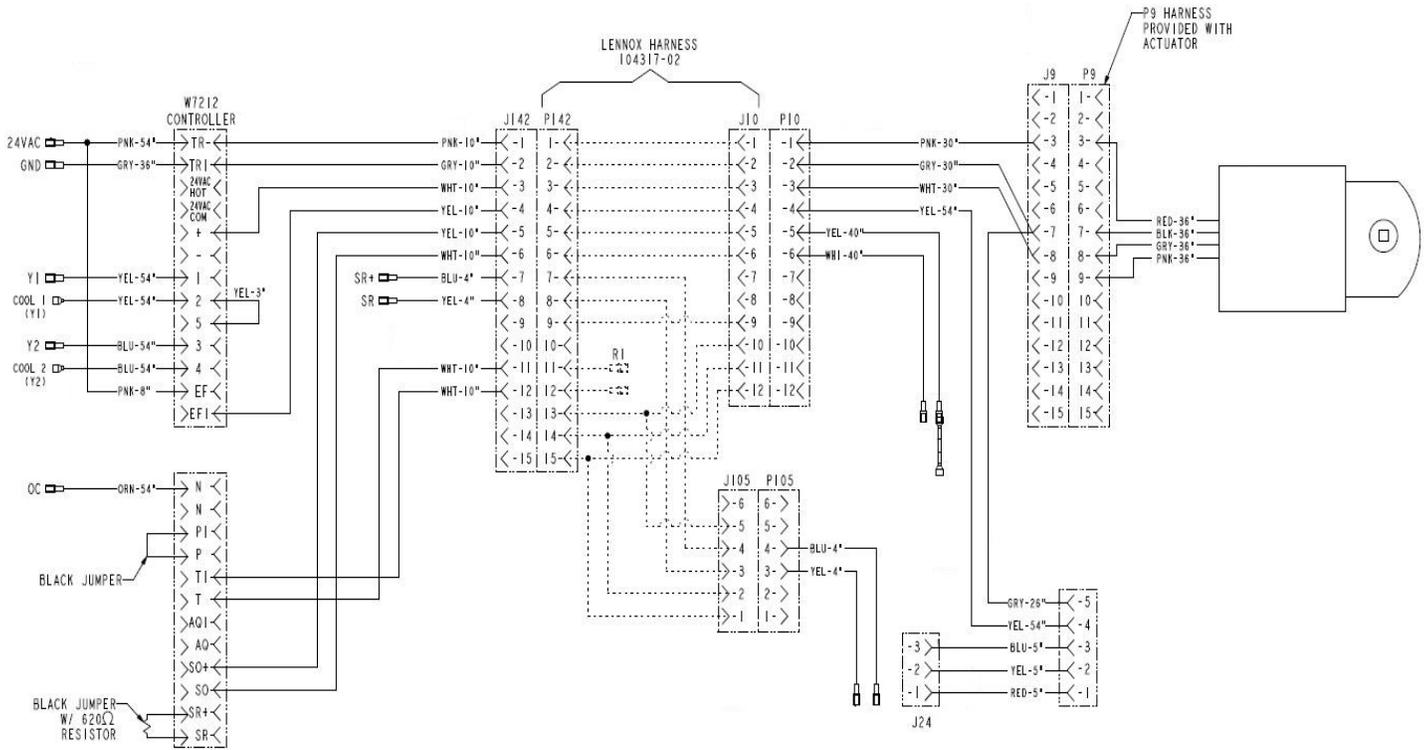

Figure 7 - Wiring Detail
4. At economizer/filter compartment, attach economizer plug (P10) to prewired harness jack (J10). See Figure 7.
5. Connect any optional sensors as shown in Figure 7.
6. If optional power exhaust is used, wire according to instructions provided with power exhaust. See Figure 7.
1. Remove the mixed air sensor from the economizer parts bag. The sensor has a small ring terminal. See Fig. 7.